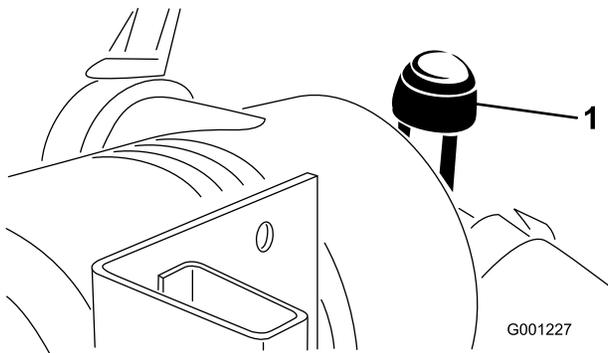

Figure 45
- Service the air cleaner filter when the air cleaner indicator (Figure 45) shows red or every 400 hours (more frequently in extremely dusty or dirty conditions). Do not over service the air filter.
9. Reset the indicator (Figure 45) if showing red.